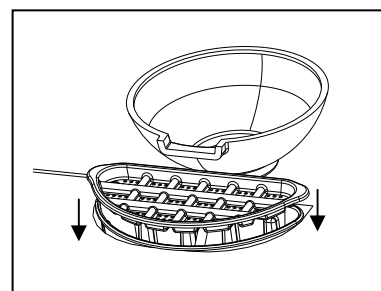

Fig. 8
8. Fill the reservoir with water then install the lid. Fig. 8